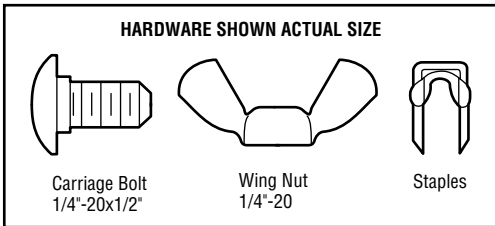

Figure 1
- Slip the curved arms over the rounded edge of each door track, with the curved arms facing the door. Snap into place against the side of the track. It should lie flush, with the lip hugging the back edge of the track (Figure 1).